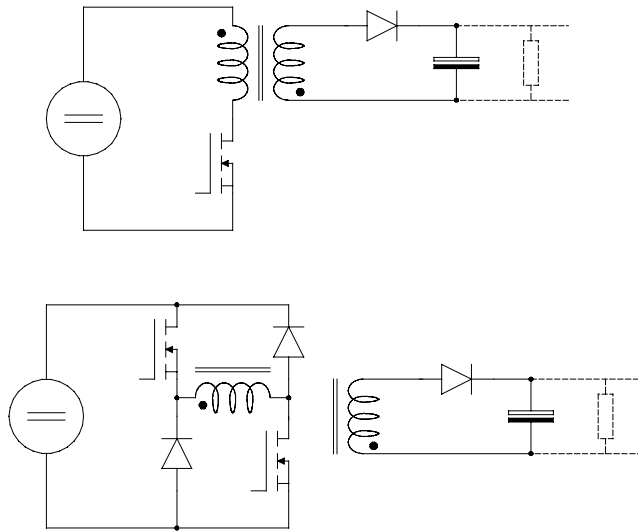

Figure 3 Isolated Flyback SMPS
- 5) (a) Figure 3 shows two designs of isolated flyback switch-mode power supplies, smps. Discuss the issues relevant to choosing between the two designs.